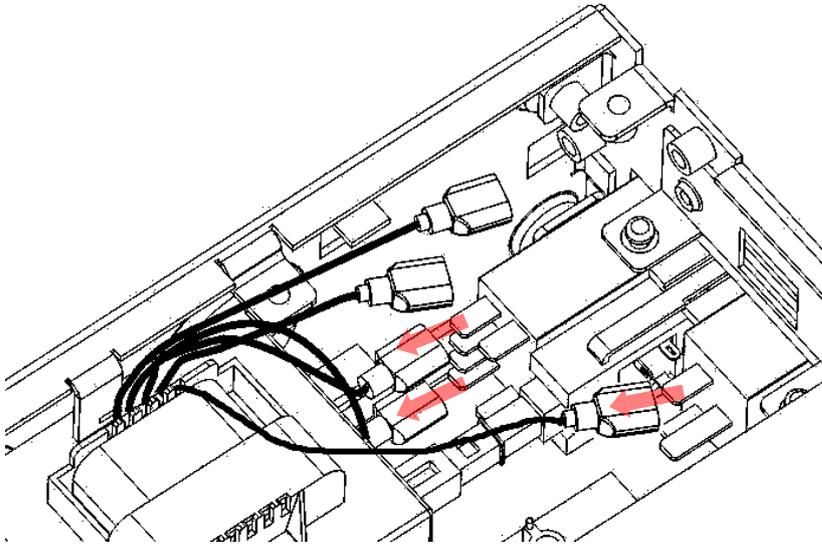

Figure 4-8
- Disconnect the three connectors from the transformer to power entry as shown in **Figure 4-8**.